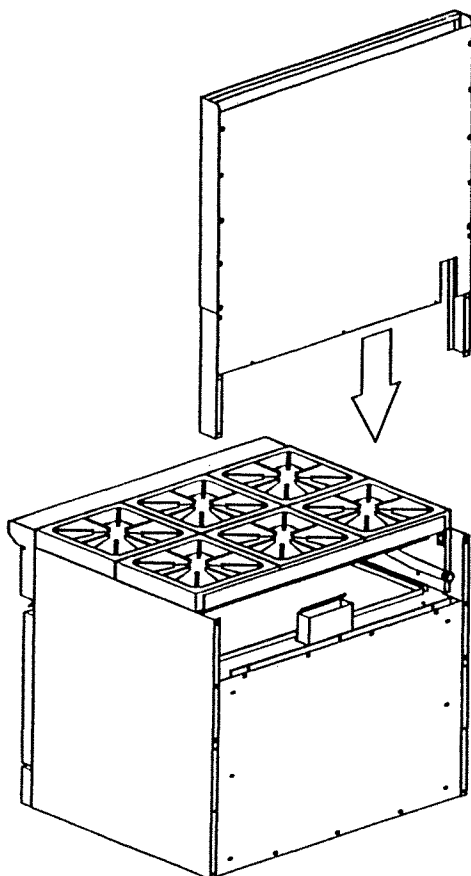

Figure 1
Step 1. Lower Riser Assembly onto the Range rear as shown in Figure 1.